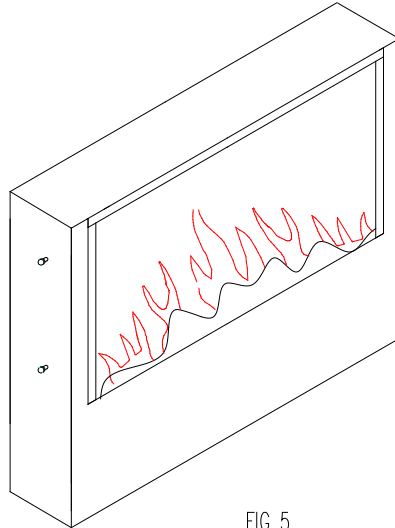

FIG 5
1. On each side of the fire are two locating studs (Figure 5).